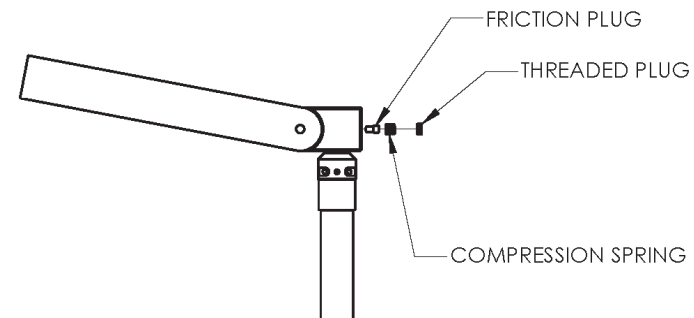

Figure 7 – Friction Plug
2.2.7 Insert the shaft of the pivot support into the mating hole in the articulating arm (Figure 7, next page). You will use the brass friction plug, spring, and threaded plug to retain it, as follows: